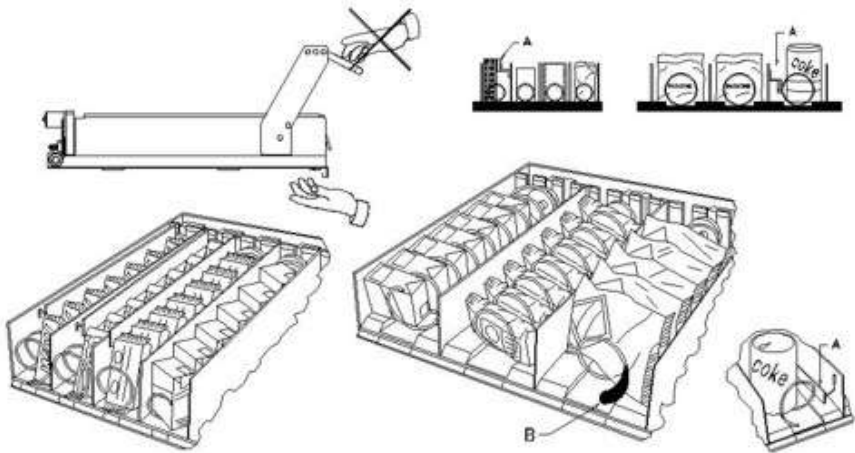

fig. 3
8.2 ENTRETOISES POUR PRODUITS DANS LES TIROIRS (fig. 3)
8.3 EJECTEUR POUR PRODUITS (fig. 3)